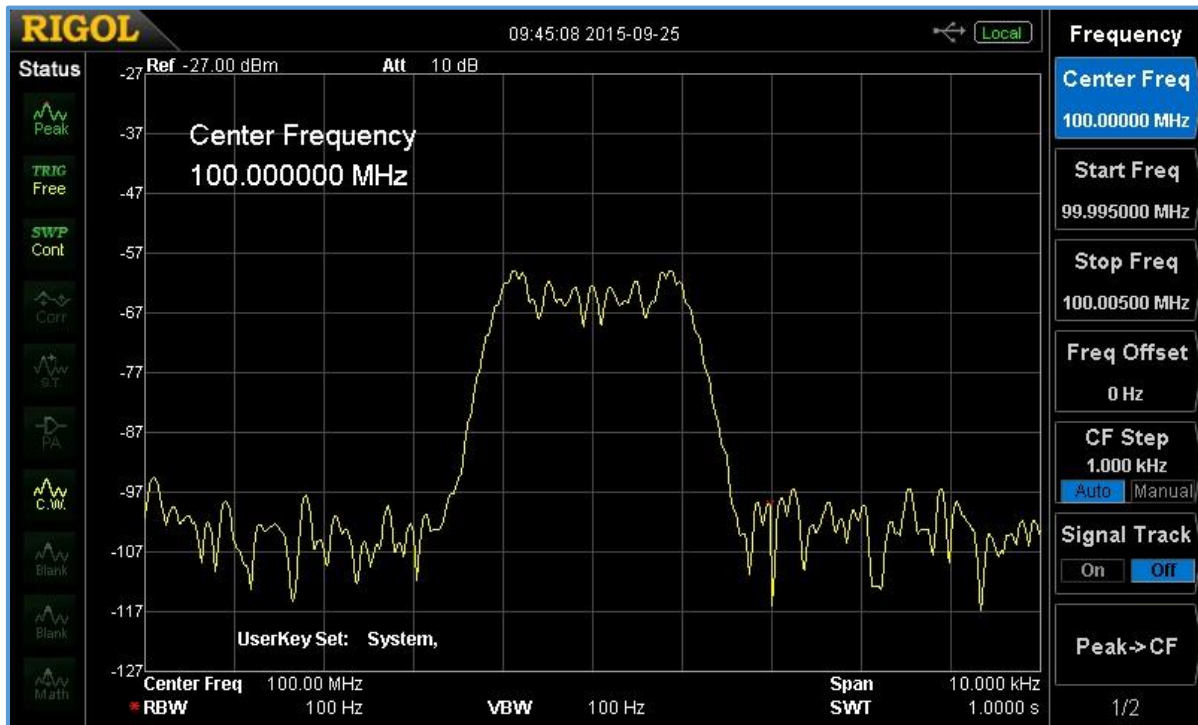

Figure 5-9: 100MHz carrier, 1kHz modulation FM signal on a spectrum analyzer
3. Set the center frequency of the analyzer to the carrier frequency of the input signal. In the example in **Figure 5-9**, a 100MHz FM transmission is being monitored.
5. Set the resolution bandwidth (RBW) to a value less than the modulation frequency. In the **Figure 5-9**, the RBW is set to 100Hz. If an RBW close to the modulation frequency is used, there might not be sufficient resolution to see the modulation.
The input signal in **Figure 5-9** was modulated with a fixed 1kHz input. A real-world FM signal would be modulated by audio or voice information that could have a non-linear change in frequency. This would cause the frequency to vary with time. If the Max Hold trace type is available, it can be enabled, just as suggested with the AM signal. The FM Frequency Deviation of the signal can be measured in this way by collecting sweep data over a period of time.